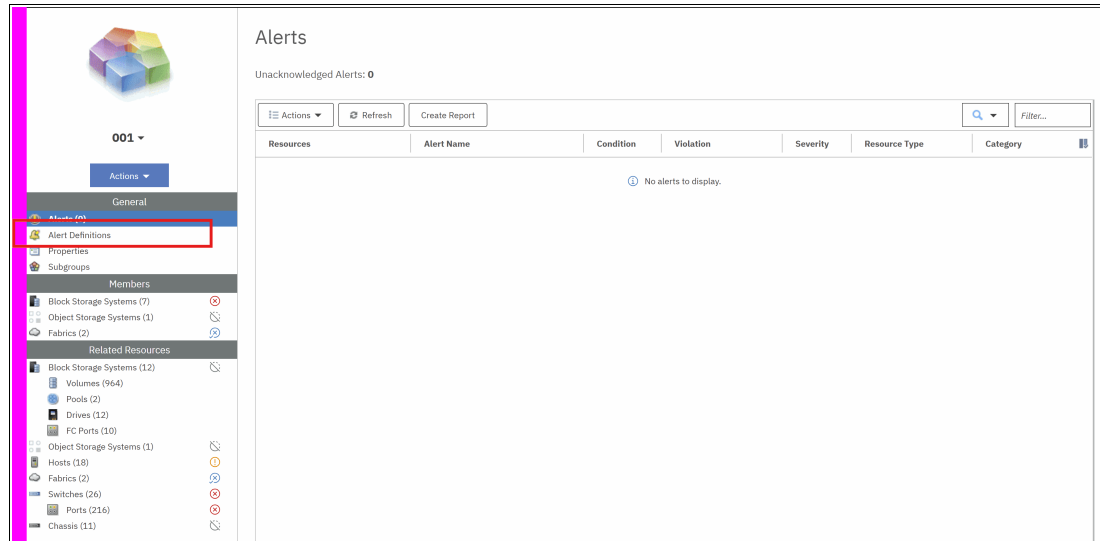

Figure 7-14 Group details
1. After defining groups, create tailored alert definitions directly within them. To access the group settings, click **General Groups** in IBM Storage Insights, and then select a group to view its details (Figure 7-14). Click **Alert Definitions**.